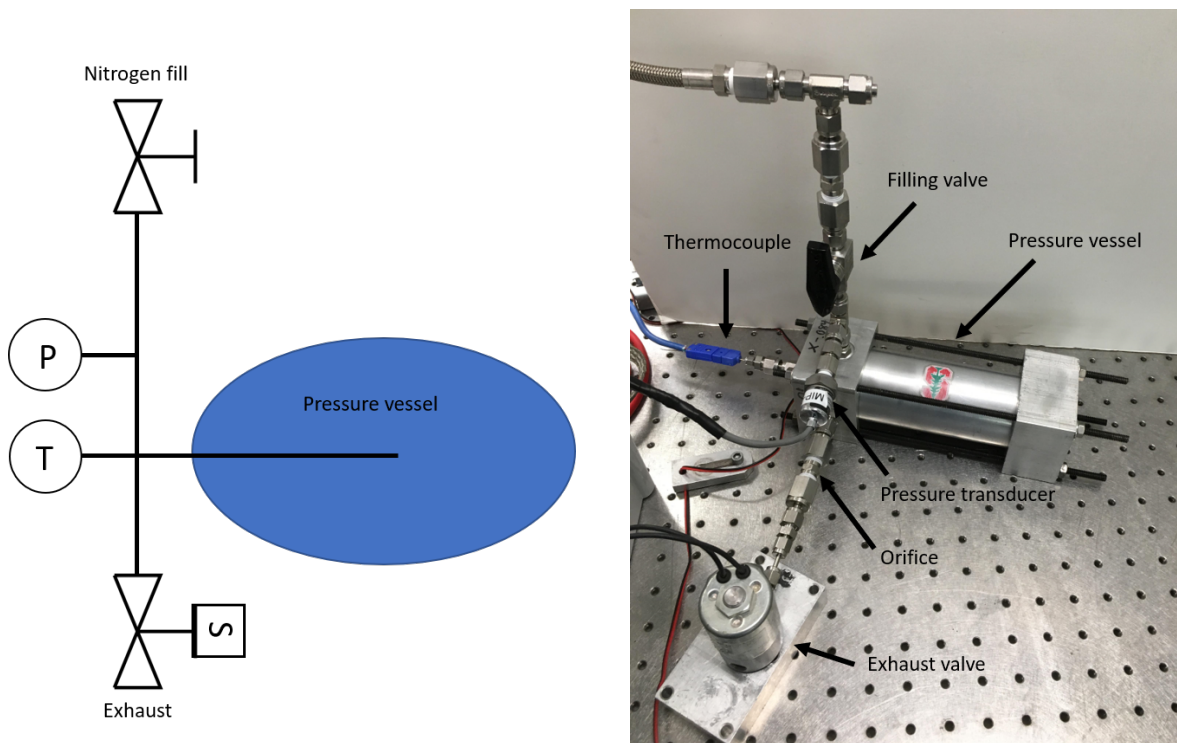

Figure 1: Schematic and picture of the experimental setup.
1. Enter the test room and open the manual ball valve (“Filling valve” in figure 1). Remember to wear safety glasses!